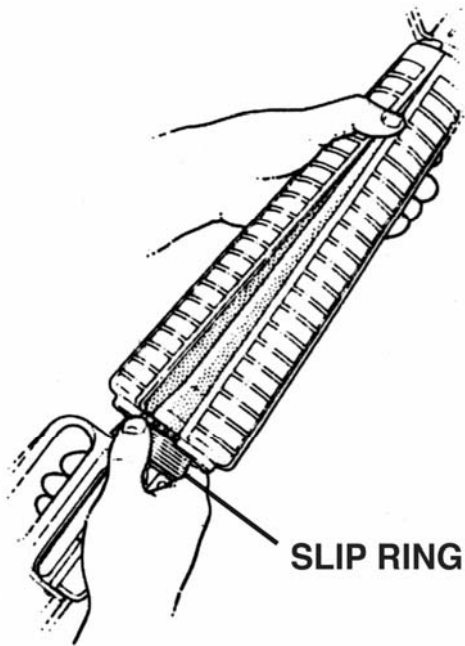

Figure 3
3. Remove *handguards* by pressing down on *slip ring* with rifle on *butt stock*. See Figure 3.